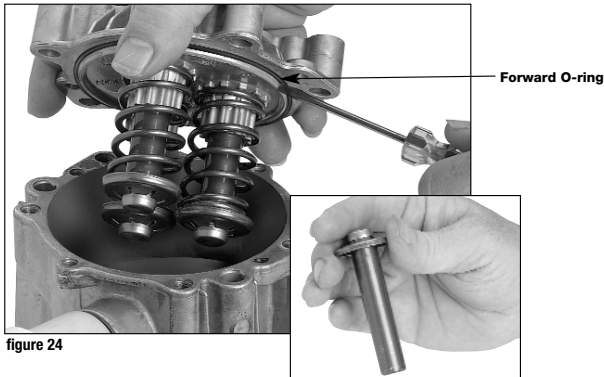

figure 24
3. Pull out piston guide assembly. (figure 24)